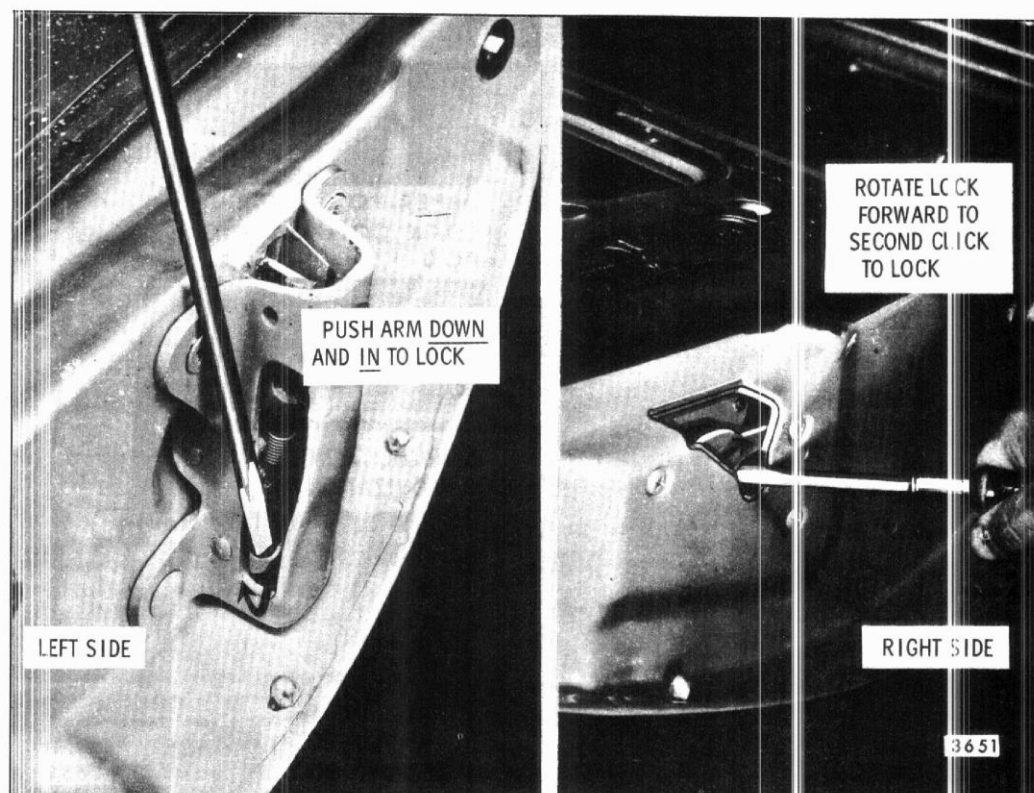

Fig. 9-40-Dual Acting Tail Gate Right and Left
5. Manually lock right and left upper locks as shown in Figure 9-40. Then with the aid of a helper to support the tail gate, activate the INSIDE DOOR REMOTE HANDLE (right side) to unlock and free the right lower lock from the striker assembly. Remove gate assembly by lifting upward, then rearward.
4. Manually lock both upper right and upper left locks as shown in Figure 9-40.